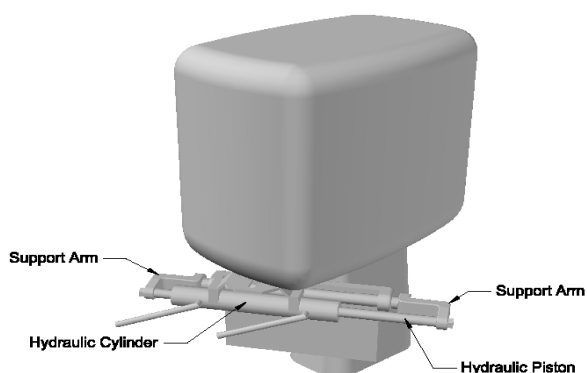

Figure 1 - Outboard Turned to Extreme Port Position
2. Turn the outboard engine(s) to the extreme port or starboard position exposing the piston of the hydraulic steering assembly (see Figure 1). When installing the Dock-N-Loc on an outboard engine with front mount hydraulic steering which has been turned to the extreme starboard position this same procedure can be used however, the Dock-N-Loc device must be inverted 180 degrees.